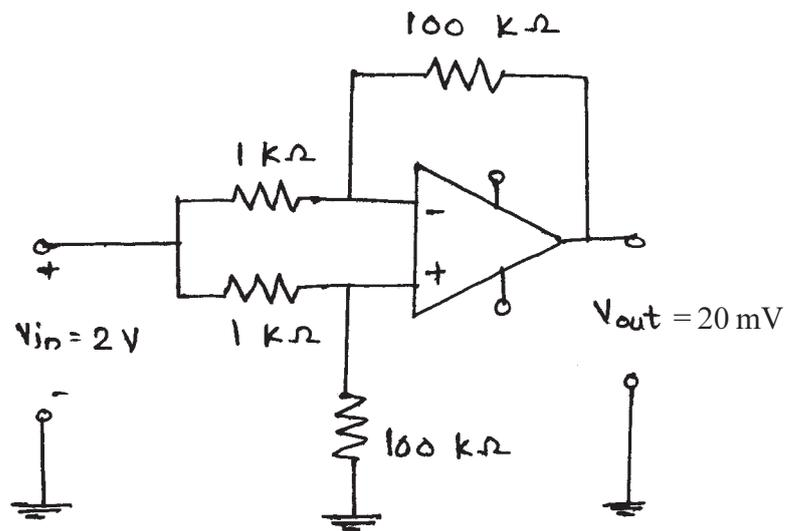

Fig. 6 Q.11(a)
- Q11)** a) Explain the effect of CMRR on the performance of Active filters. The output voltage measured in the circuit shown in figure. 6 is 20 mV, if the input voltage is 2V. Find value of CMRR. [8]